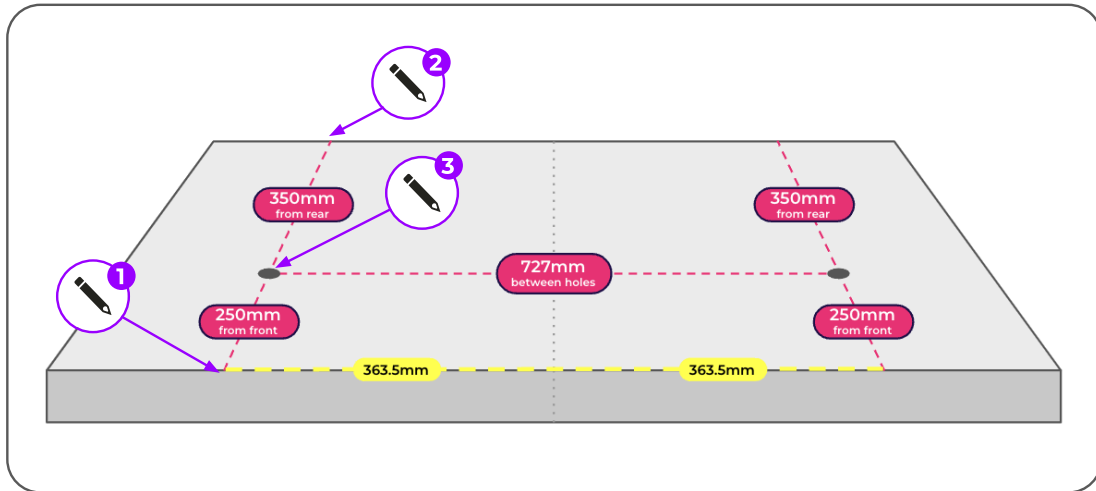

Figure 9.5 - Measurements for bolt holes
6. Repeat Steps 1-4 for the opposite side. Ensure the two bolt hole positions are 727 mm apart. See *Figure 9.5*